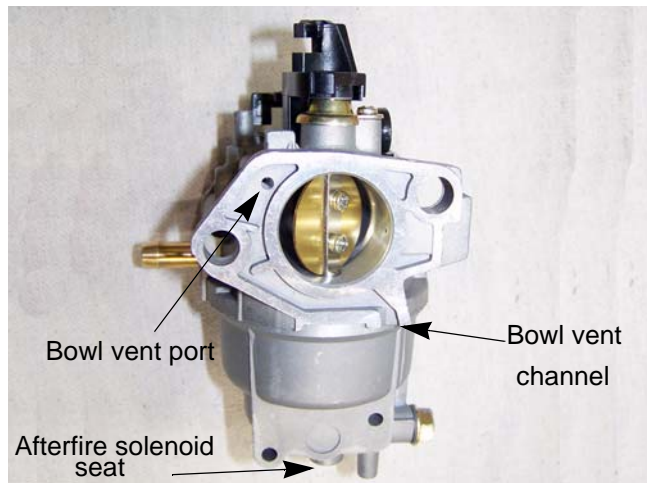

Figure 4.6
2. Check the vent passages. See Figure 4.6.